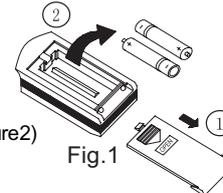

Fig.1
1. Slightly press the place with  , along the arrowhead direction to push the back cover of wireless remote control. (As shown in figure1)
2. Take out the old batteries. (As shown in figure1)